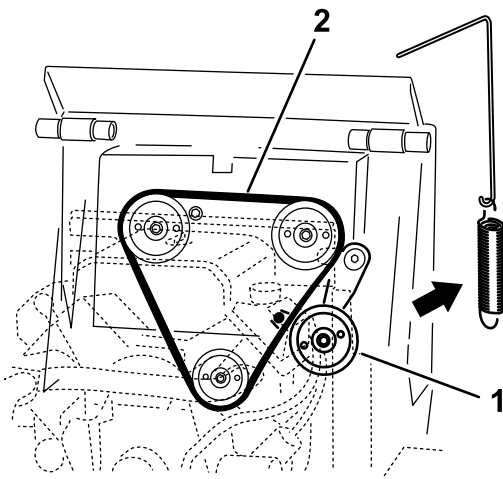

Figure 58
5. Remove the idler pulley spring from the idler-pulley assembly (Figure 58).
7. Install a new drive belt around the 3 pulleys (Figure 58).